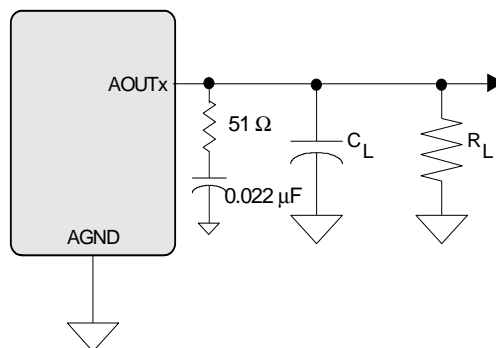

Figure 2. Headphone Output Test Load
5. See Figure 2. R_L and C_L reflect the recommended minimum resistance and maximum capacitance required for the internal op-amp's stability and signal integrity. In this circuit topology, C_L will effectively move the band-limiting pole of the amp in the output stage. Increasing this value beyond the recommended 150 pF can cause the internal op-amp to become unstable.
Test conditions (unless otherwise specified): Input test signal is a full-scale 997 Hz sine wave; Sample Frequency = 48 kHz; Measurement Bandwidth is 20 Hz to 20 kHz; Test load $R_L = 16 \Omega$, $C_L = 10$ pF (see Figure 2); "Required Initialization Settings" on page 32 written on power up.
Test conditions (unless otherwise specified): Input test signal is a full-scale 997 Hz sine wave; measurement bandwidth is 20 Hz to 20 kHz; Sample Frequency = 48 kHz; Test load $R_L = 10\text{ k}\Omega$, $C_L = 10\text{ pF}$ (see Figure 2); “Required Initialization Settings” on page 32 written on power up.